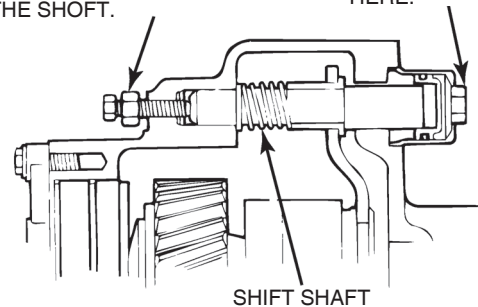

Figure 5.107
- D. When the screw touches the shaft, tighten the adjusting screw an additional one turn. Apply air pressure, then tighten the jam nut. Figure 5.107.